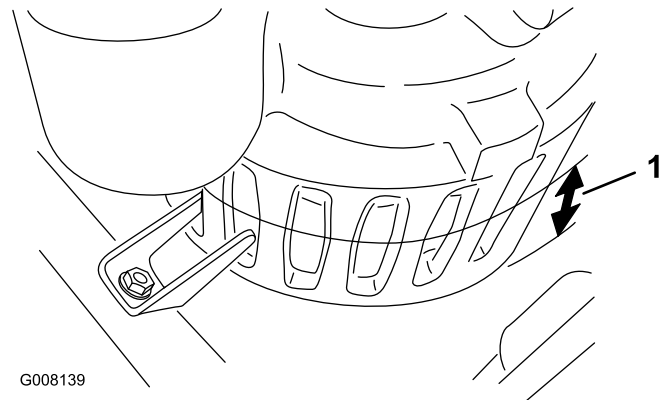

Figure 8
1. Measure the water depth in the lowest part of the bunker. If the water depth is less than 2-1/2 inches (halfway up the slots on the pump), dig a 1 foot by 1 foot by 2-3 inch deep hole to lower the pump into the hole (Figure 8).